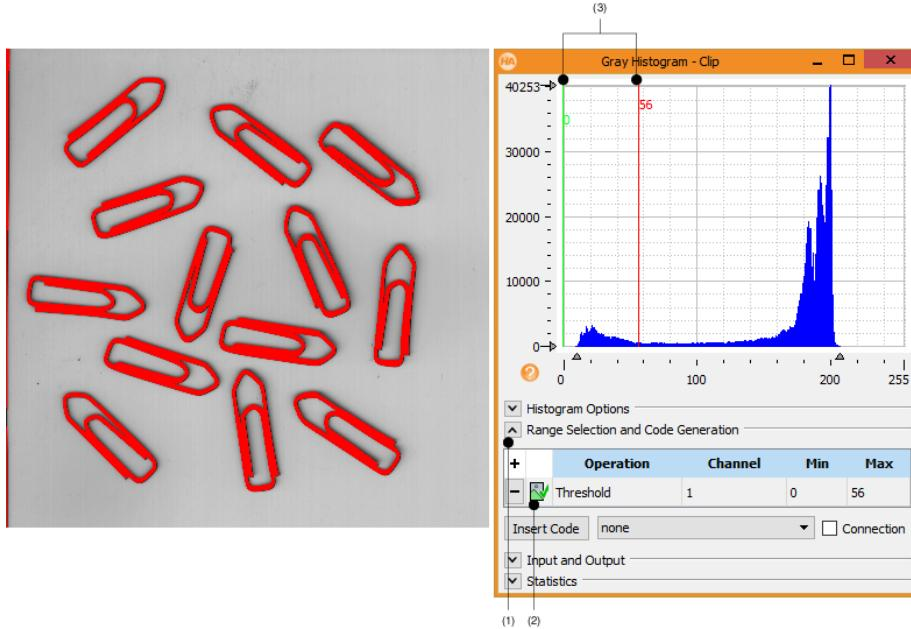

Figure 4.7: Determining threshold bounds interactively using the gray histogram.
Make sure **Range Selection** and **Code Generation** is visible in the histogram window (1), see figure 4.7. Select **Threshold** in the column **Operation** of the gray histogram window, and click the icon next to **Threshold** (2) to visualize the operation. Now, you can try different threshold bounds by altering the values in **Min** and **Max** or by dragging the lines (3) in the histogram area. Any changes to these values are immediately visualized in the active graphics window. The values 0 and 56 seem suitable for the lower and upper bounds, respectively.